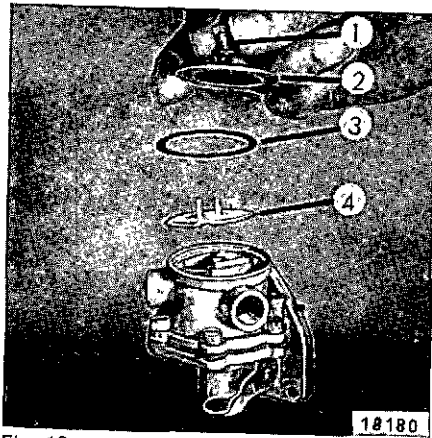

Fig. 18
**Every 120 running hours** remove consecutively screw 1, cover 2, gasket 3 and strainer 4 (Fig. 18). Clean strainer in fuel. When reassembling, ensure perfect tightness.